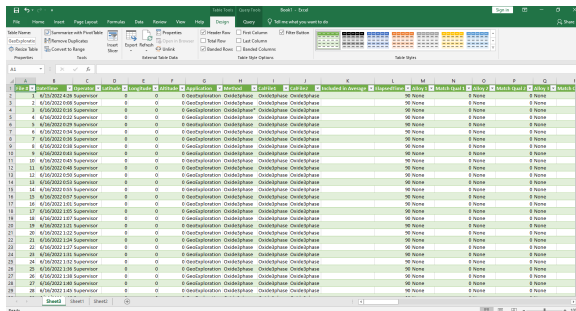

Figure 19. Exported file from pXRF gun.
6. Click **load** and the data will be exported to excel and should look like Figure 19.